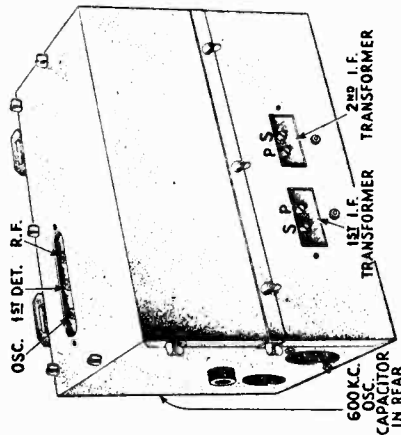

Figure 24—Location of Radio Frequency, Oscillator and Intermediate Frequency Adjustments
6. With the socket wrench, adjust the oscillator (see Figure 24), the first detector and the R. F. line-up capacitors until a maximum deflection is obtained in the output meter.
7. Set the oscillator at 600 K. C. Tune in this signal with the receiver and adjust for a deflection in the output meter. Now adjust the 600 K. C. series capacitor. Figure 24, until maximum output is obtained. Rock the tuning capacitor back and forth while making this adjustment.